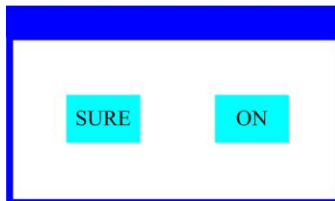

Figure 3 Dialog of confirm
- When the parameter is a key item, chick corresponding item, a dialog shown in Figure 3 will been popup ask for the confirm. Chick 'sure' to confirm.